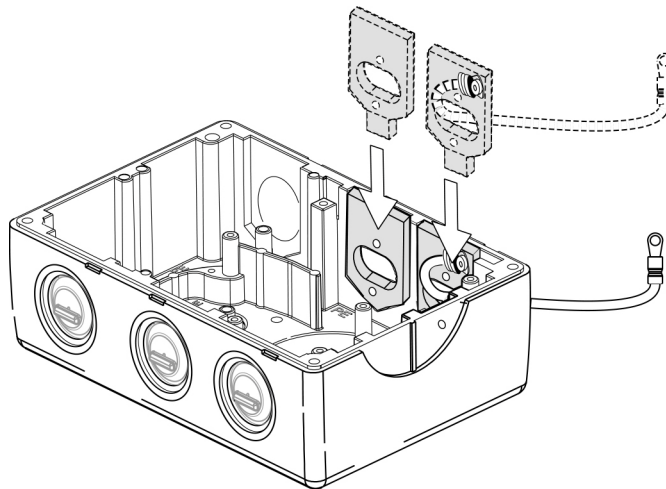

Figure 4-4 Fitting Gland Fixing Plates
7. Slide the fixing plates into the slots provided immediately behind the gland access holes (as shown in Figure 4-4).